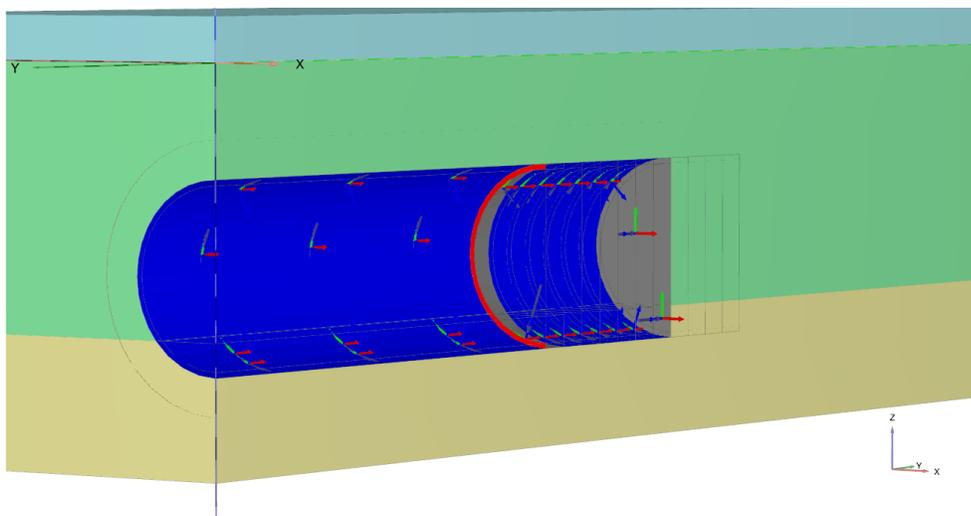

Figure 90: Selection of soil surfaces (25.0 m)
- c. In the drawing area select the lateral surfaces of the outer volume, corresponding to the last slice of the TBM (grout and jack thrusting) at 25.0 m (Figure 90: Selection of soil surfaces \(25.0 m\) (on page 110)). In the **Selection explorer**, deactivate the surface load corresponding to the jack thrusting, because the TBM is only placed in this phase and it's not moving.